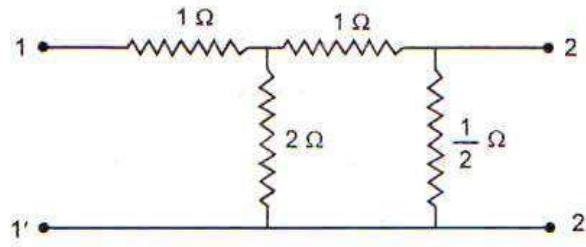

Figure:3
- b) Find the Z-parameters for the resistive network shown in figure3. [7+8]